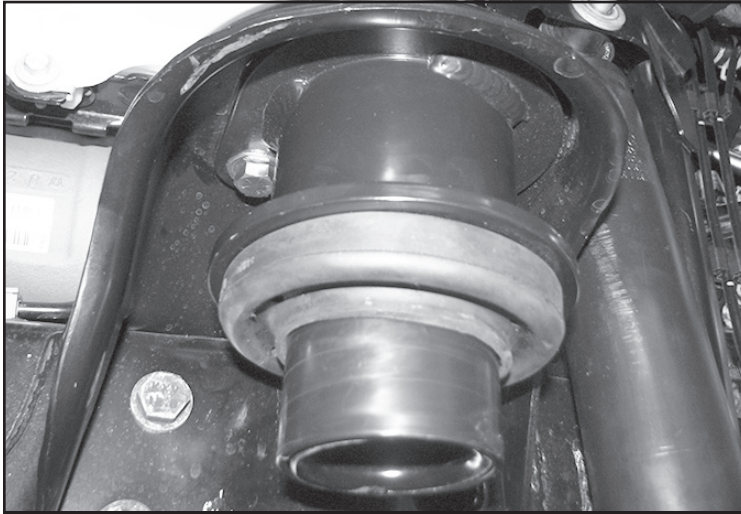

FIGURE 13 - STEP 12
12. Install the rubber isolator onto the new Fabtech coil spacer. Repeat on passenger side **SEE FIGURE 13**